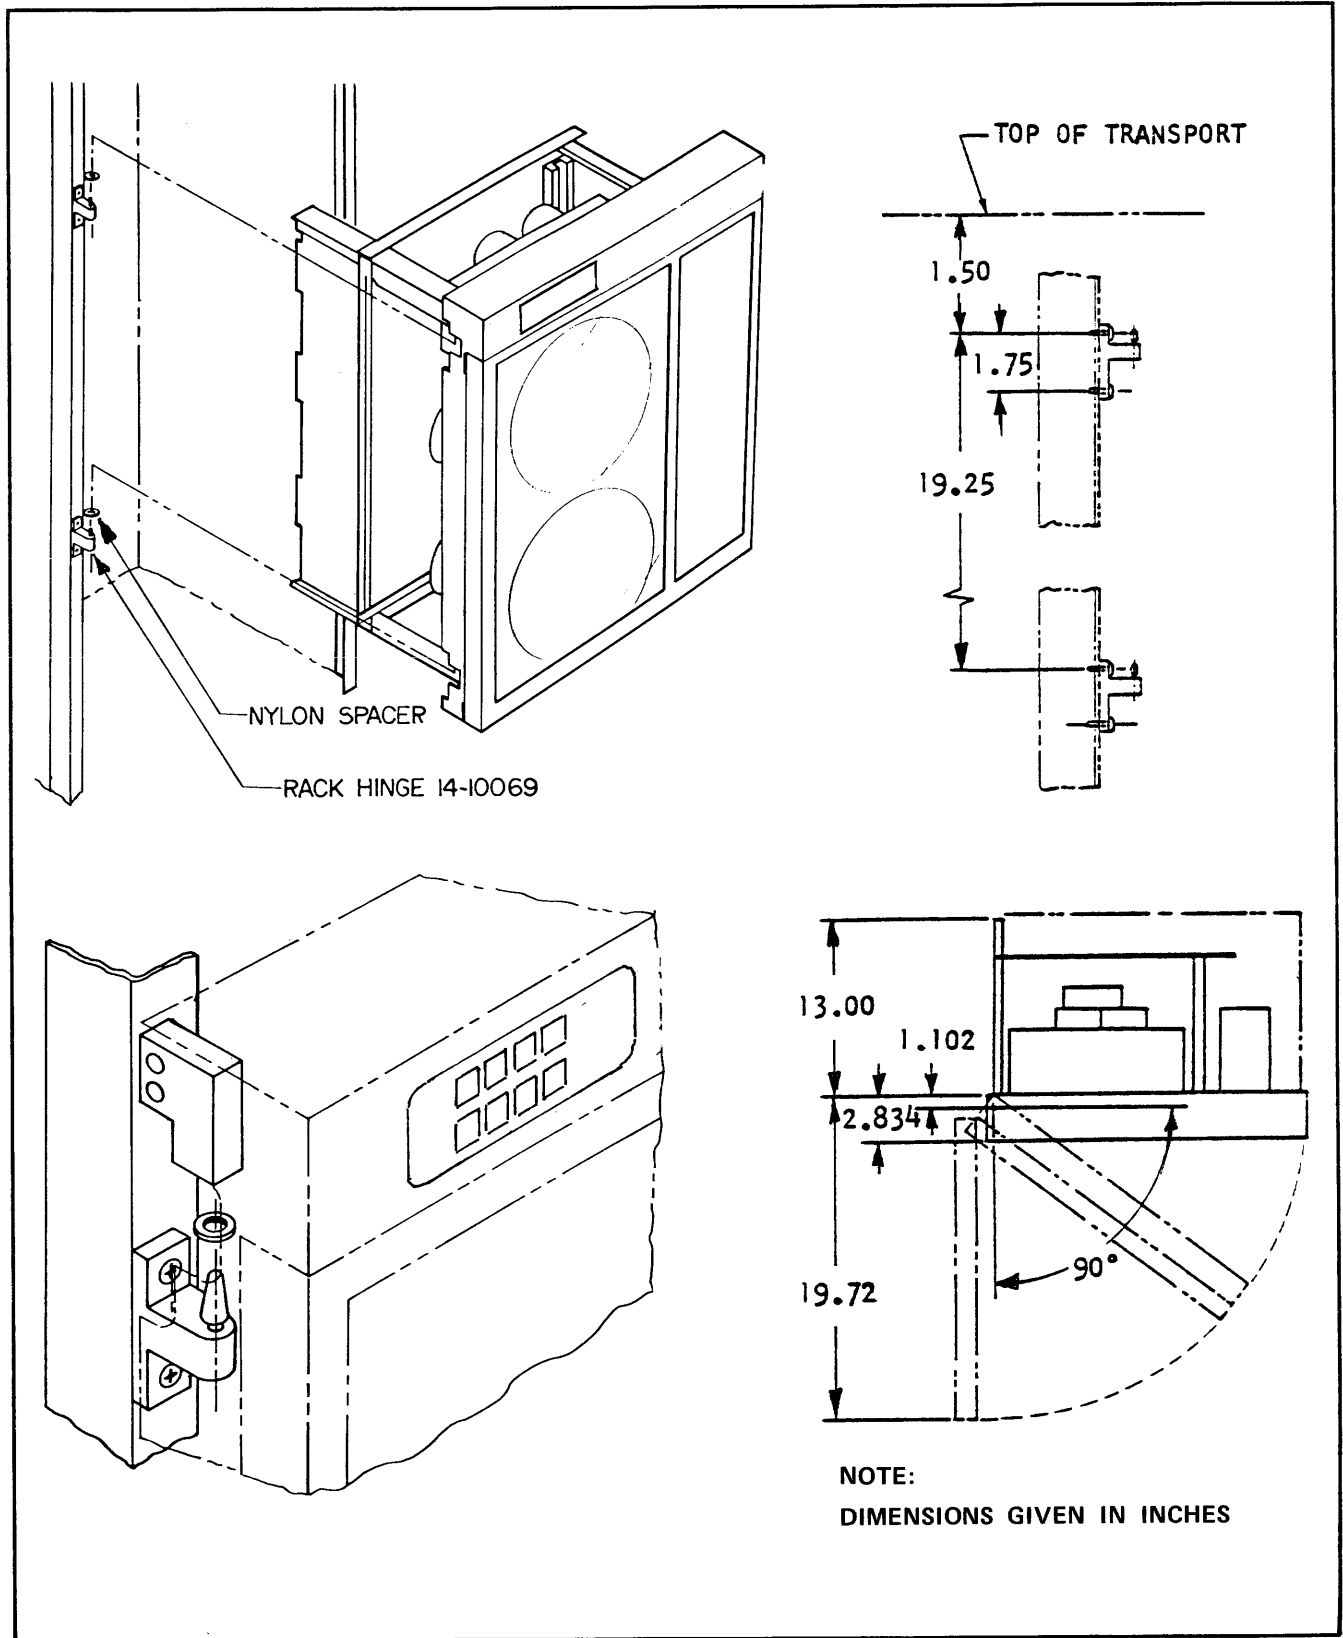

FIGURE 2-8. MOUNTING DETAILS SERIES 1050
The tape transport is designed for installation in a standard 19-inch RETMA rack. The unit is supported by two hinge assemblies attached to the left side of the top plate assembly, and is held in place by a single pawl fastener. This is referred to as a three point mounting (2 at mounting hinge and one at locking pawl). **DO NOT** attempt a four point mounting. Mounting details are shown in Figure 2-8. The following procedure is recommended for installation:
1. Bolt support rack hinges to RETMA rack as necessary. See Figure 2-8.
4. Install nylon spacers on rack hinges. (See Figure 2-8.)